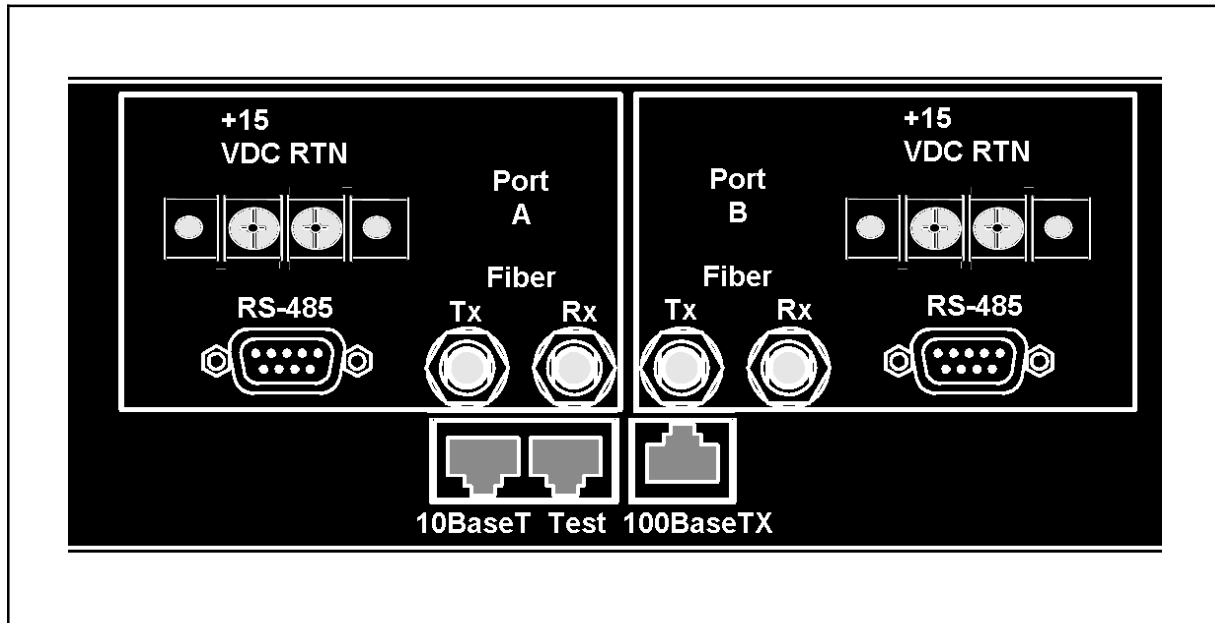
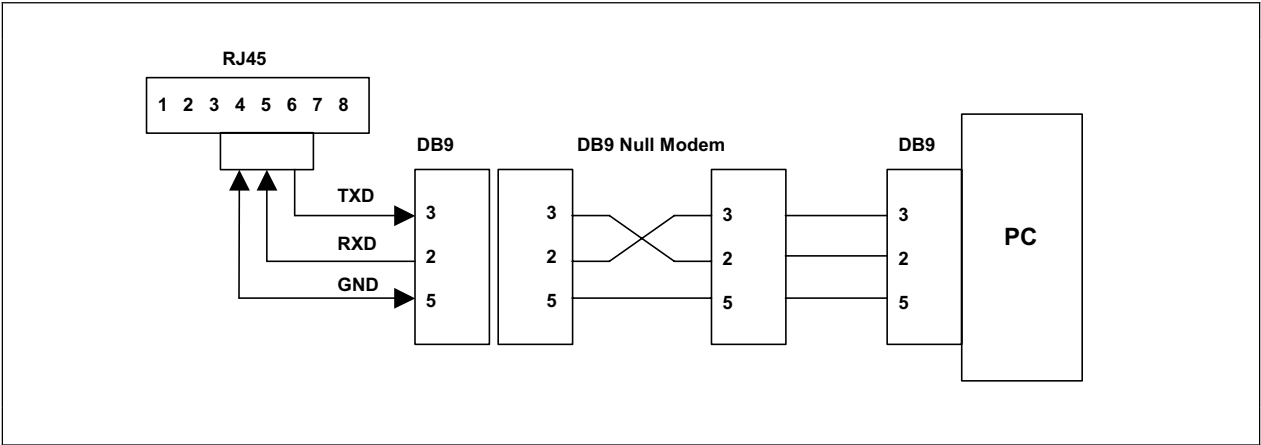

Figure 6-6: Backhaul Router – Output Connections
Figure 6-8: Maintenance Port (TEST) Serial I/O
The Ethernet port is labeled 10Base-T (see Figure 6-6). It is used to connect the Backhaul Router through a Hub to a Cisco (or similar) Network Access Router.
2. Connect the fiber optic cables onto the ST connectors on the rear of the Backhaul Router (see Figure 6-6).
3. Connect the Transmit (TX) output on the rear of the Backhaul Router to the Receive (RX) input in the Tower Top Radio
- 4. Connect the Receive (RX) input on the rear of the Backhaul Router to the Transmit (TX) output in the Tower Top Radio.
An RJ-45-to-DB-9 adapter is required to connect the Backhaul Router (TEST) to the PC (see Figure 6-6). The cable shown in Figure 6-8 can be used to connect the Backhaul Router to most computers and terminals. Refer to Table 6-5 for connector pin outs.